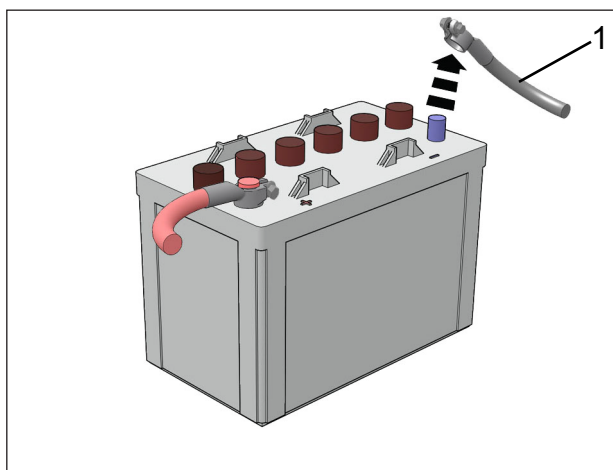

Figure 6.8 - Removing Battery Negative Terminal
1. Disconnect the battery negative terminal, see item 1 Figure 6.8.
10. Reconnect the battery negative terminal, see item 1 Figure 6.8.